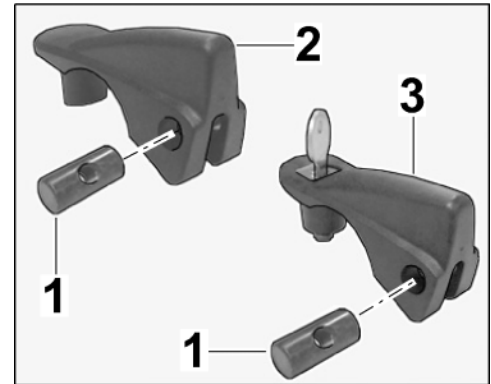

Figure 4
1.2.2 Insert M6 barrel nuts (3 ea.) into the tensioning levers (3 ea.) (⇒ *Figure 4*).